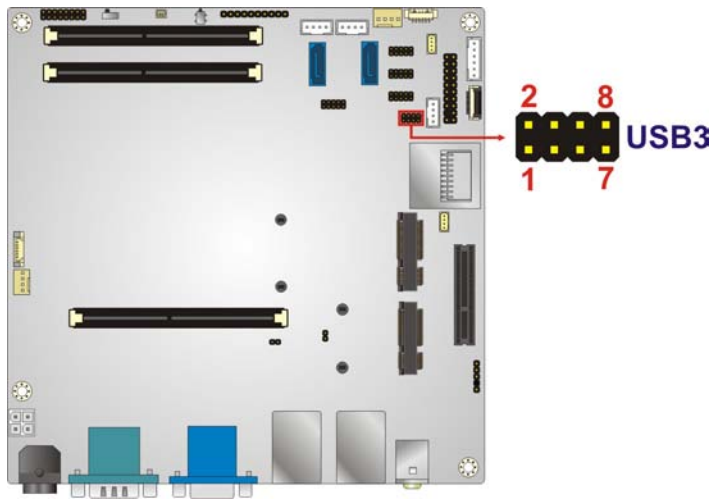

Figure 3-26: USB Connector Locations
- CN Location: See **Figure 3-26**